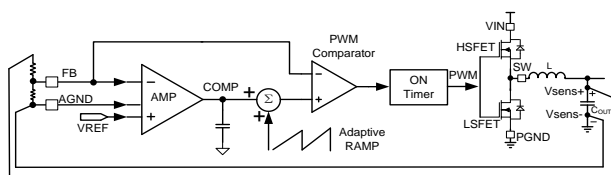

Figure 2: COT Control
The MPQ8626 employs constant-on-time (COT) control to achieve fast load transient response. Figure 2 shows the details of the control stage of the MPQ8626.
The MPQ8626 provides accurate EN thresholds, so a resistor divider (R3/R4 in Figure 2) from VIN to AGND can be used to program the input voltage at which the MPQ8626 is enabled. This is highly recommended for applications where there is no dedicated EN control logic signal to avoid possible under-voltage lockout (UVLO) bouncing during power-up and power-down. The resistor divider values can be determined with Equation (7):